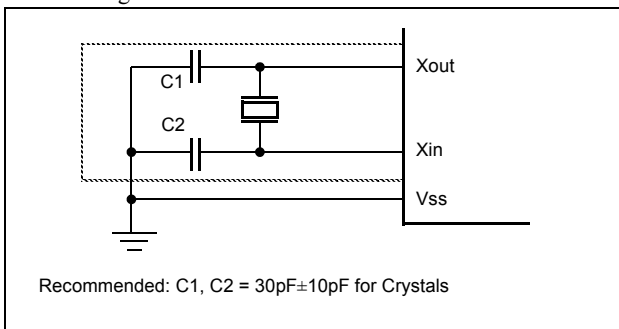

Figure 10-2 Oscillator Connections
$X_{IN}$  and  $X_{OUT}$  are the input and output, respectively, a inverting amplifier which can be set for use as an on-chip oscillator, as shown in Figure 10-2 .
**Note:** When using a system clock oscillator, carry out wiring in the broken line area in Figure 10-2 to prevent any effects from wiring capacities.